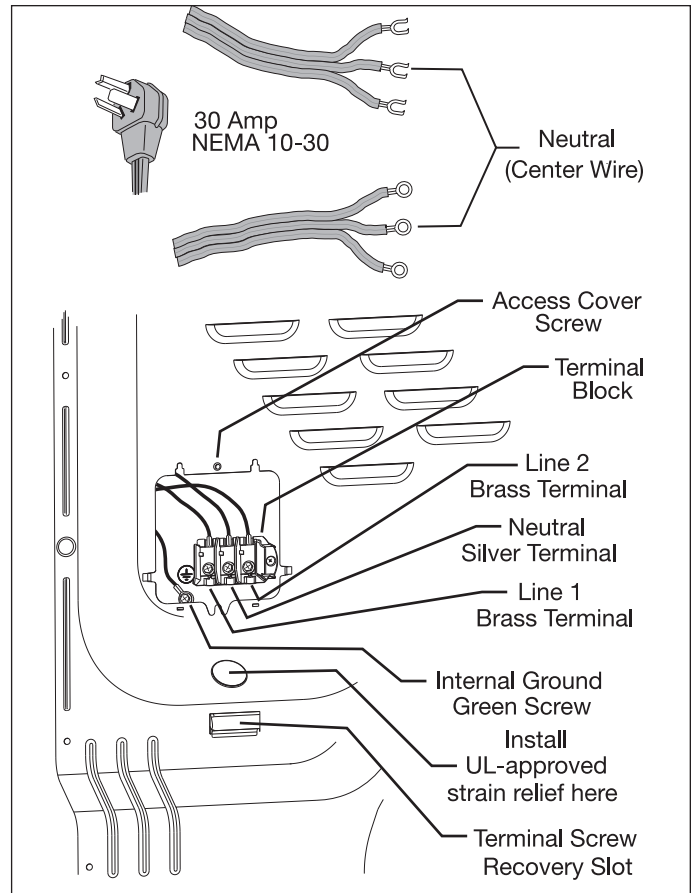

Figure 2-8.
5. Attach the power cord neutral (center wire) conductor to the SILVER colored center terminal on the terminal block. Tighten the screw securely. (See Figure 2-8 & 2-9)